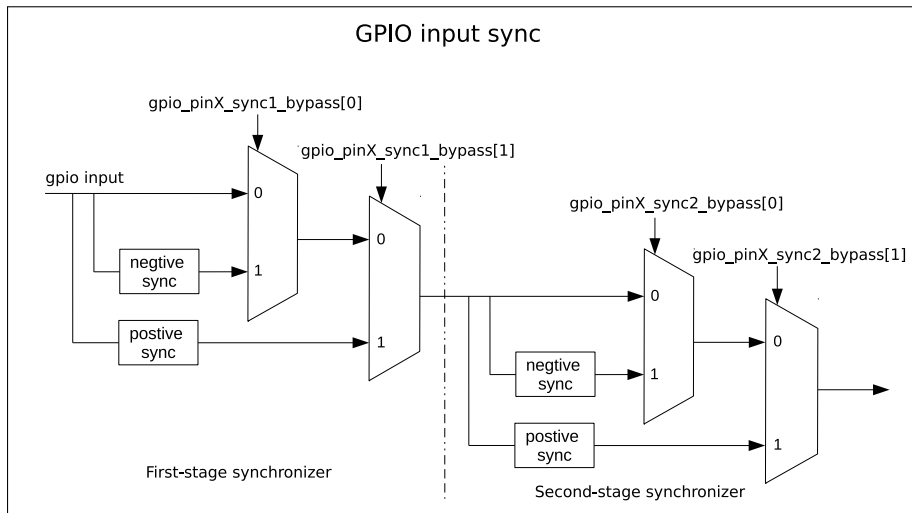

Figure 5-2. GPIO Input Synchronized on Clock Rising Edge or on Falling Edge
Figure 5-2 shows the functionality of GPIO SYNC. In the figure, negative sync and positive sync mean GPIO input is synchronized on APB clock falling edge and on APB clock rising edge, respectively.
- Set `GPIO_PIN $x$ _SYNC1_BYPASS` to enable input signal synchronized on rising edge or on falling edge in the first clock, see Figure 5-2.
- Set `GPIO_PIN $x$ _SYNC2_BYPASS` to enable input signal synchronized on rising edge or on falling edge in the second clock, see Figure 5-2.